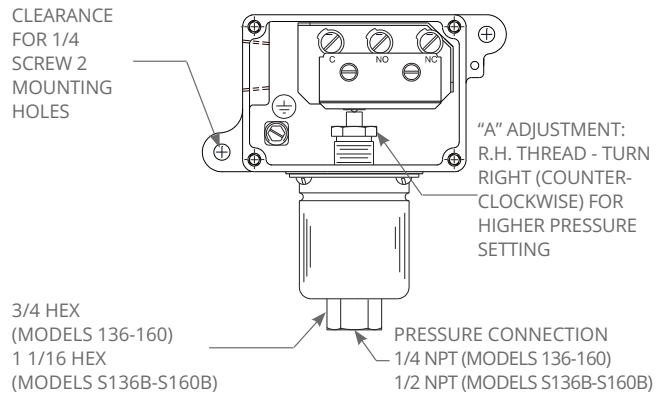

Figure 1: MODELS 136-160, S136B-S164B, 258-274 & 354-364
**3** The adjusting screw, labeled "A" in Figures 1 & 2, is located beneath the switch and is turned to adjust the set point. Using the appropriately sized open-end wrench (see Tools Needed above), turn the adjustment screw towards the left (clockwise) to increase set point or towards the right (counter-clockwise) to decrease set point.
**3** The adjusting screw, labeled "A" in Figures 1 & 2, is located beneath the switch and is turned to adjust the set point. Using a 1/4" open-end wrench, turn the adjustment screw towards the right (counter-clockwise) to increase set point (towards full vacuum) or towards the left (clockwise) to decrease set point (towards 0 psig).